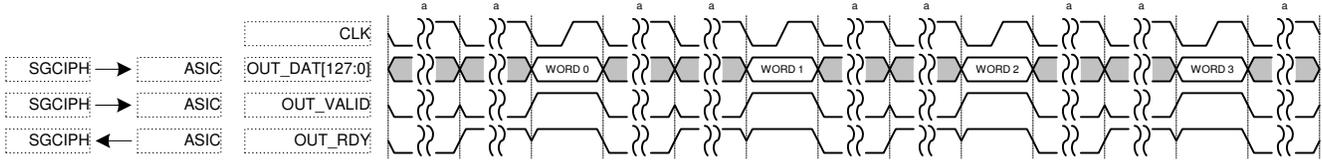

Figure 4.
Figure 4. Illustrates TXT output interface timing from the cipher. After encryption ciphertext (CT) data is placed on the **OUT\_DAT[127:0]** signals or after decryption plaintext (PT) data is placed on the **OUT\_DAT[127:0]** signals. The ASIC that receives PT or CT data from the output of the **SGCIPH40** is considered a downstream device. The **OUT\_RDY** signal is used to indicate to the **SGCIPH40** that the downstream device is ready to receive data. The **SGCIPH40** responds